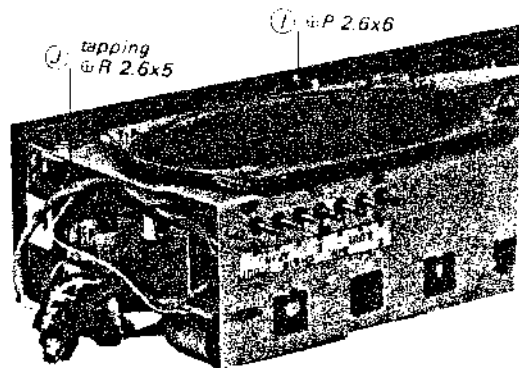

Fig. 2-6
7. Remove the screw (Ø P 2.6x6) marked (I) and the tapping screw (Ø R 2.6x5) marked (J) in Fig. 2-6.